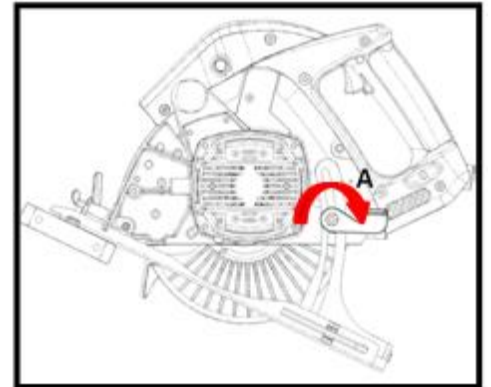

Fig.14
3. Re-tighten the Lock Lever (A) securely after the depth adjustment is made. Fig. 14